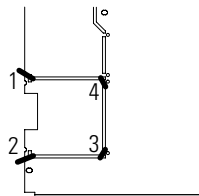

Figure 14. Breakaway Panel Links
3. Use a pair of pliers to bend the narrow links (1 and 2 in Figure 14) between the outer edge of the lower breakaway panel and the rear panel.
4. Use the pliers to bend the entire breakaway panel (at 3 and 4 in Figure 14) until it breaks away.